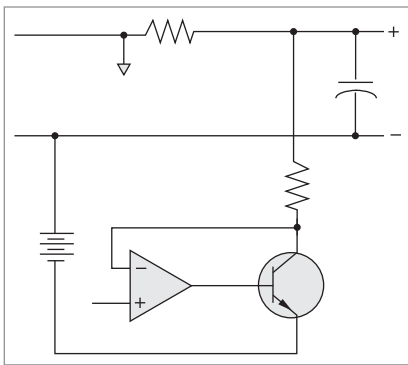

Figure 2: A down programmer situated between power supply's positive output and a negative source
- In Figure 2, the down programmer lies between the power supply's positive terminal and a negative source. This configuration pulls the output completely down with no degradation near zero.